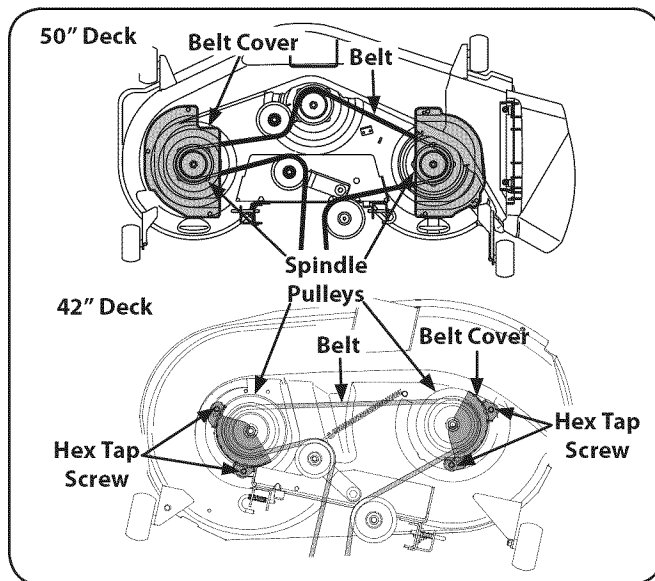

Figure 7-7
2. Remove the hex tapping screws securing the belt covers to the deck and remove the belt from the spindle pulleys. Refer to Fig. 7-7.
3. Install the new belt around the spindle pulleys as shown in Fig. 7-7 and reinstall the belt covers.